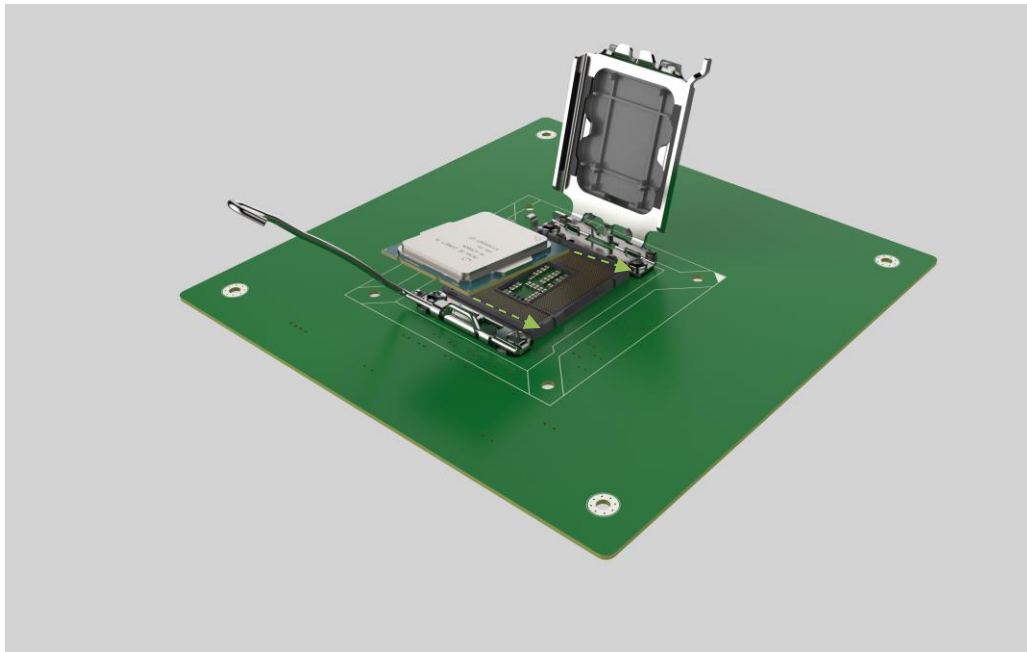

Figure 4-5: Insert the Socket LGA1700 CPU
Step 7: Insert the CPU. Gently insert the CPU into the socket. If the CPU pins are properly aligned, the CPU should slide into the CPU socket smoothly. See **Figure 4-5**.